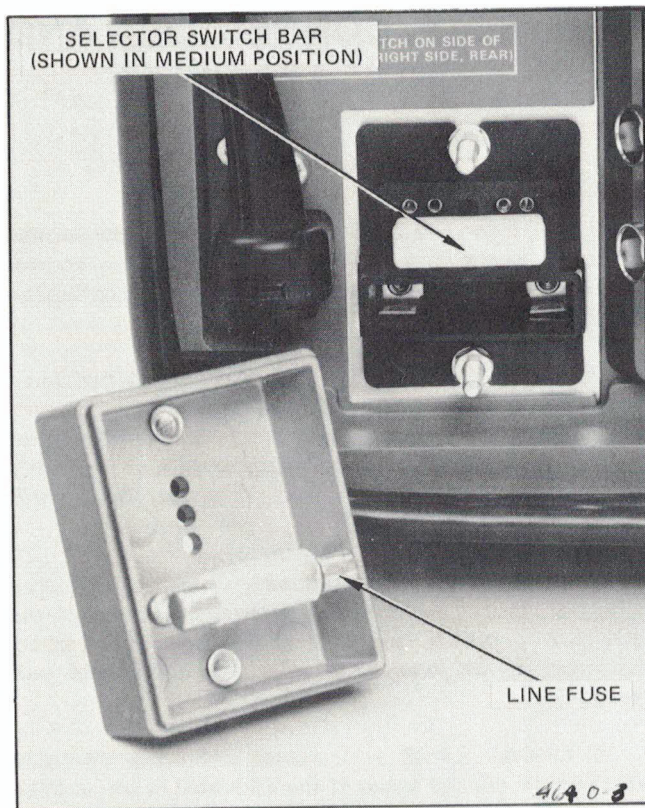

Fig. 1. Regulating range selector and line fuse.
3. Pull out the range selector switch bar (see Fig. 1). Select a range from Table 1 which is centered about the average line voltage. Slide the bar to the desired position and plug it in. Push the cover on and tighten the screws.